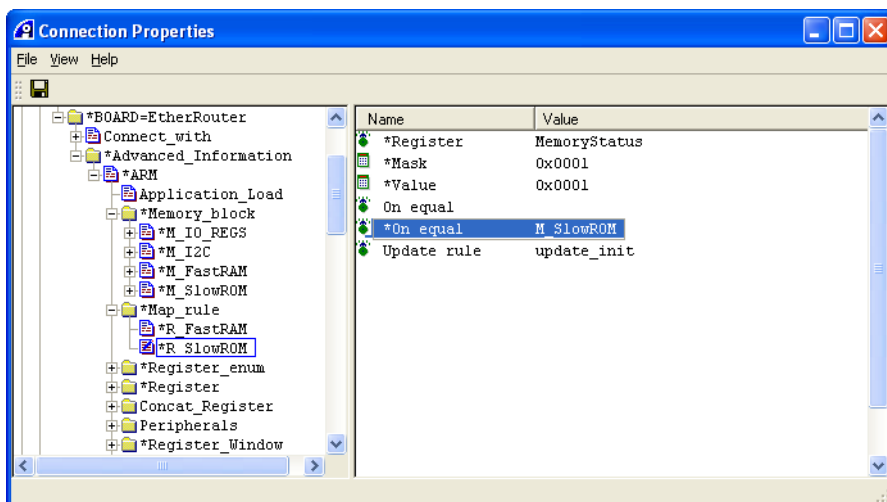

Figure 5-20 Settings for the R_SlowROM map rule
7. Set the value of *On_equal to **M_SlowROM**, shown in Figure 5-20 on page 5-30.